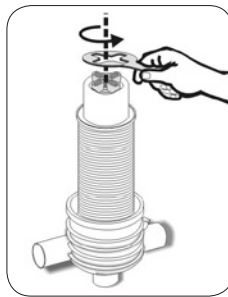

Figure 2
- Unscrew the butterfly-nut on the filtration element (Figure 2).